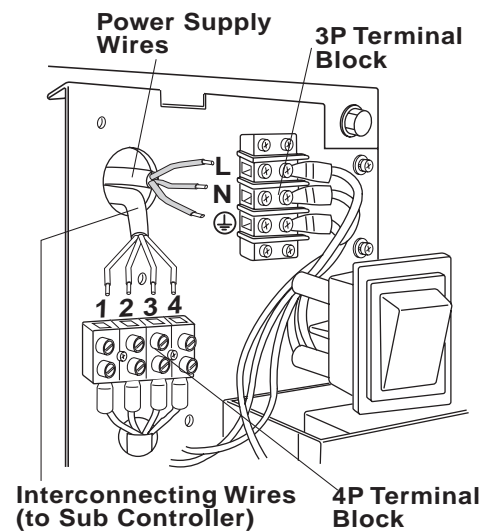

Fig.3-4 Wires Connection in Main Controller
4. Cut the wires to workable length and strip 3/8" of insulation for power supply wires and 3/16" for interconnecting wires for Sub Controller. Connect power supply wires to **3P** terminal block and interconnecting wires to **4P** terminal block. **(Fig.3-4)**